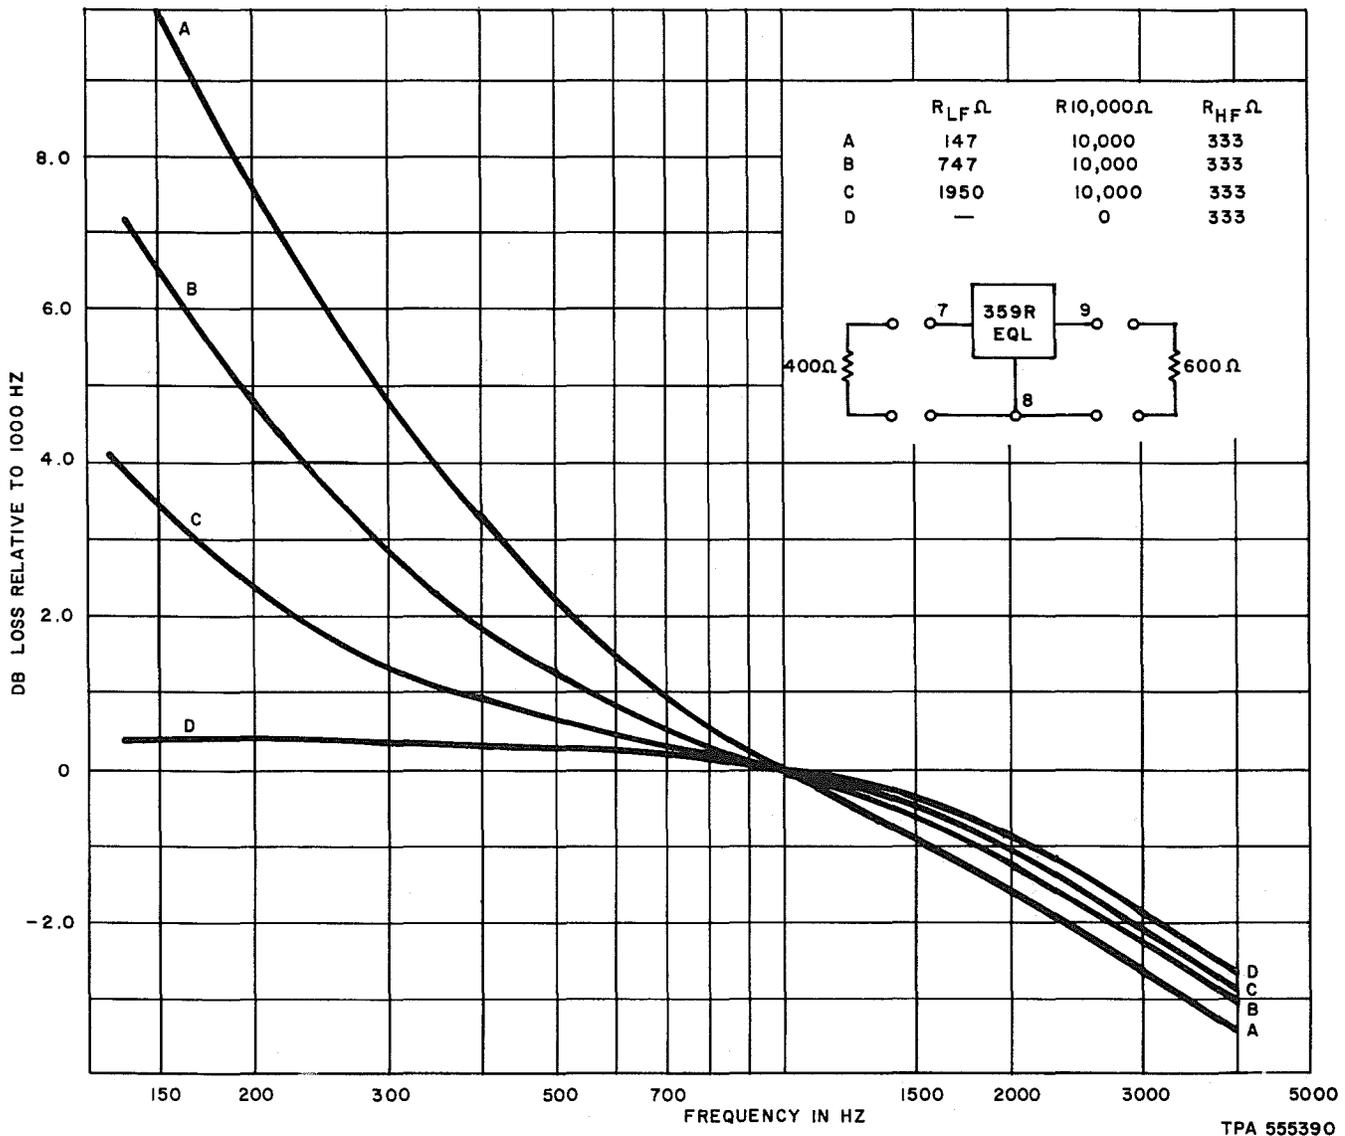

Fig. 6—359R Equalizer—Loss-Frequency Characteristic
**5.01** The series arm low-frequency components  $R_{LF}$ ; R10,000; and C1 provide compensation for amplitude distortion in the 4-wire line facilities at frequencies up to approximately 1000 Hz. Figure 6